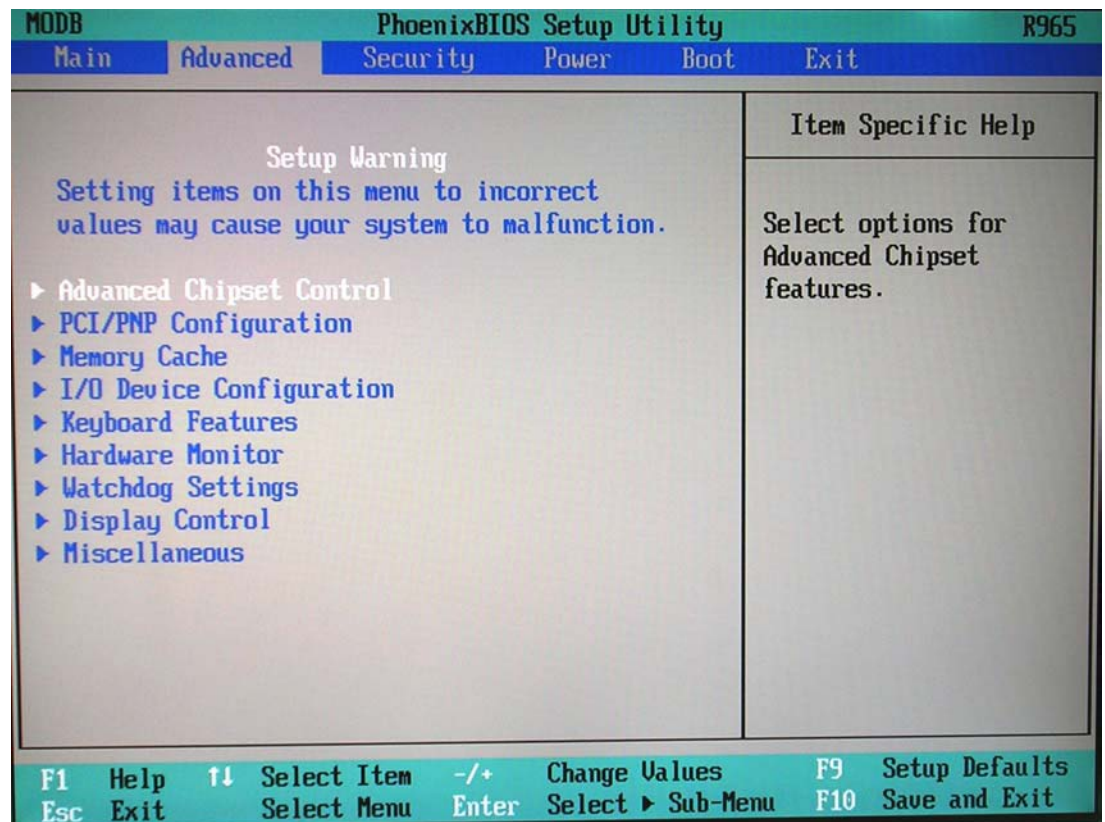

Figure 8-56 BIOS Advanced Parameters Screen
- 4.) Press <Esc> to return to the **Advanced** menu home screen (Figure 8-56).
- 7.) Press <Esc> to return to the **Advanced** menu home screen (Figure 8-56).
- 10.) Press <Esc> to return to the **Advanced** menu home screen (Figure 8-56).
13.) Press <Esc> to return to the **Advanced** menu home screen (Figure 8-56).
- 16.) Press <Esc> to return to the **Advanced** menu home screen (Figure 8-56).
- 19.) Press <Esc> to return to the **Advanced** menu home screen (Figure 8-56).
- 22.) Press <Esc> to return to the **Advanced** menu home screen (Figure 8-56).
- 25.) Press <Esc> to return to the **Advanced** menu home screen (Figure 8-56).